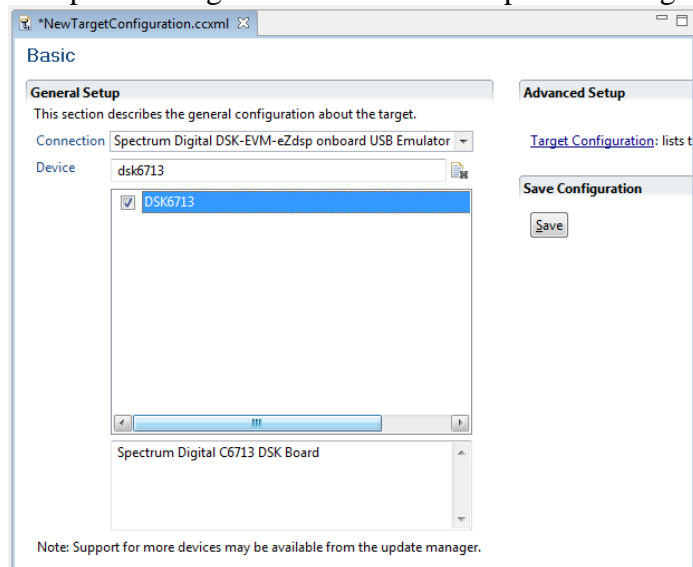

Figure 7: Target Configuration Settings
- Set up the configuration window that opens as of figure 7: